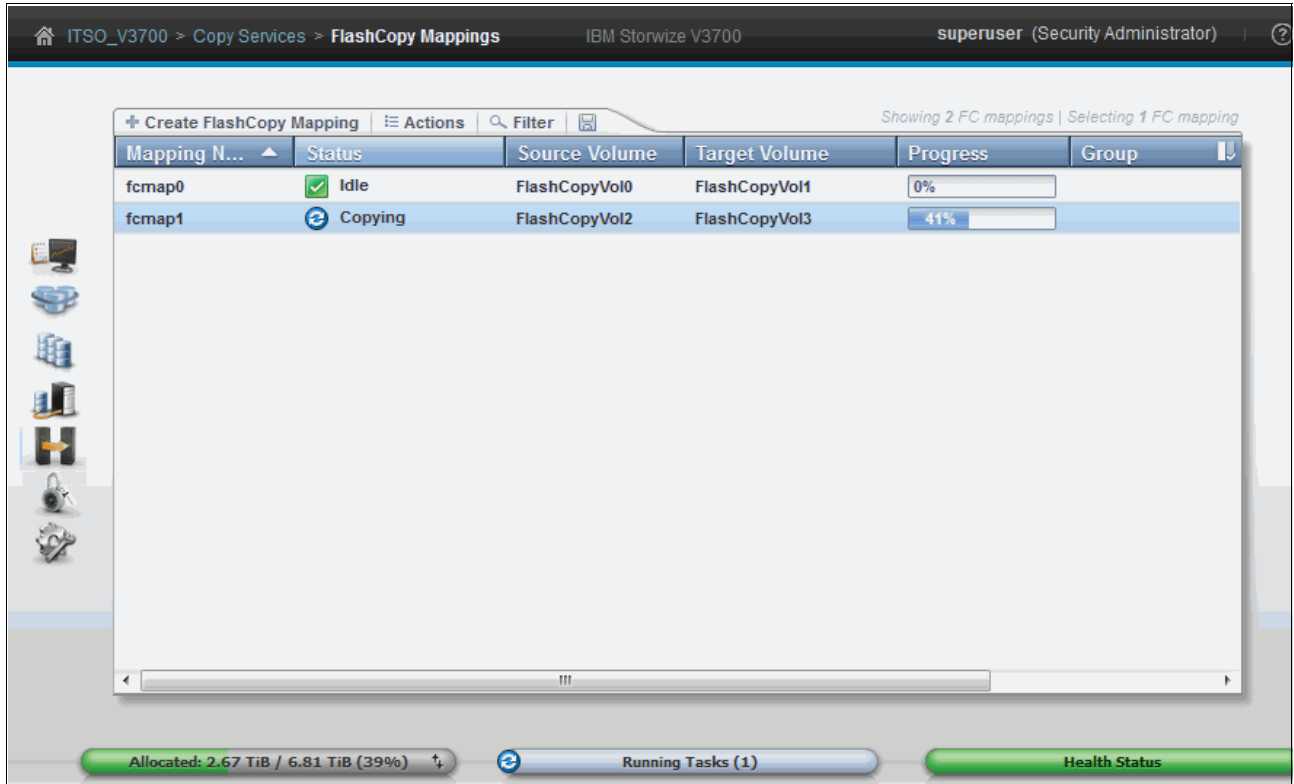

Figure 10-11 FlashCopy in progress viewed in the FlashCopy Mappings window
- In the FlashCopy window and in the FlashCopy Mappings window, you can monitor the progress of the running FlashCopy operations, as shown in Figure 10-11. The progress bars for each target volume indicate the copy progress as a percentage. The copy progress remains 0% for snapshots (there is no change until data is written to the target volume). The copy progresses for clone and backup continues to increase until the copy process completes.